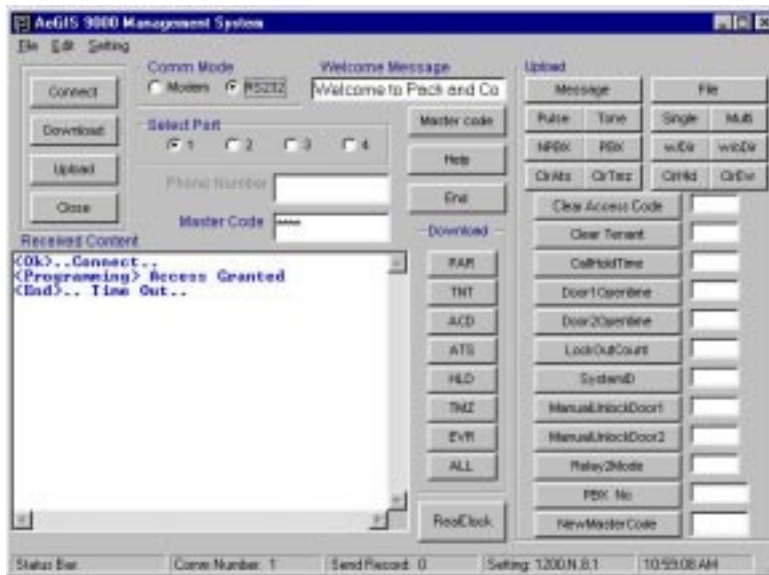

Figure 4.9
Step 4 Click on “**Connect**” and you will see “Connect” in the Received Content box as shown on figure 4.9.
Step 5 Enter the valid Master Code in the “**Master Code**” text box and click on “**Master Code**” button. If your Master Code is valid, you will see **<Programming> Access Granted** as shown on figure 4.9, if the Master code is invalid the connection will be aborted.
Step 6 Click on “**Close**” to disconnect the connection. If the AeGIS 9000 is in idle for 120 seconds the connection will be disconnected and you will see **<End>..Time Out** in the Received Content box as shown on figure 4.9.